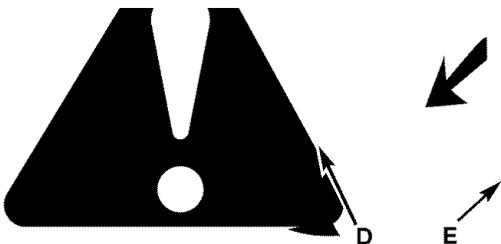

Fig. 18
4. Remove saw chain from around the guide bar (E) and the sprocket (F). Slide the guide bar (E) with tension plate (D) attached, from the unit. (Fig. 18)